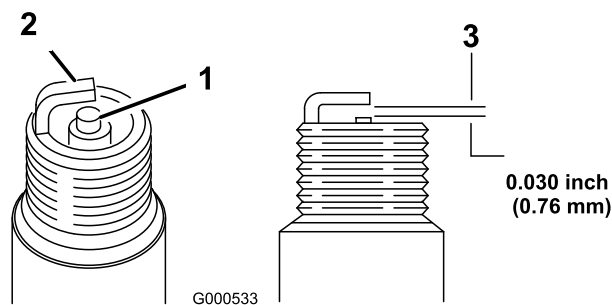

Figure 24
5. Set the gap on the plug to 0.030 inch (0.76 mm) (Figure 24).